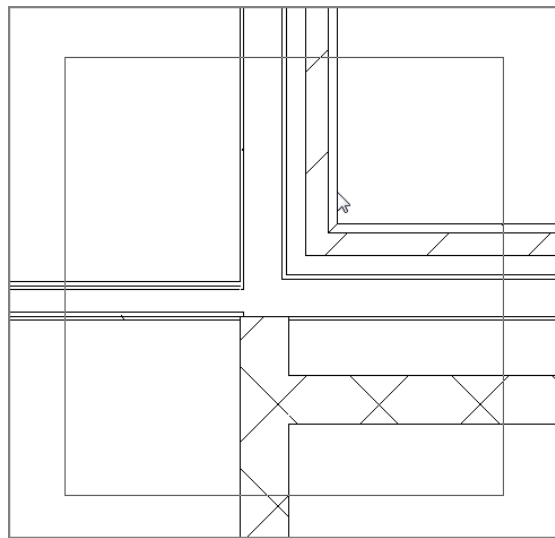

FIGURE 2.53: Choosing the intersection you wish to edit
8. Hover your pointer over the intersection. Revit displays a big box, as shown in Figure 2.53.